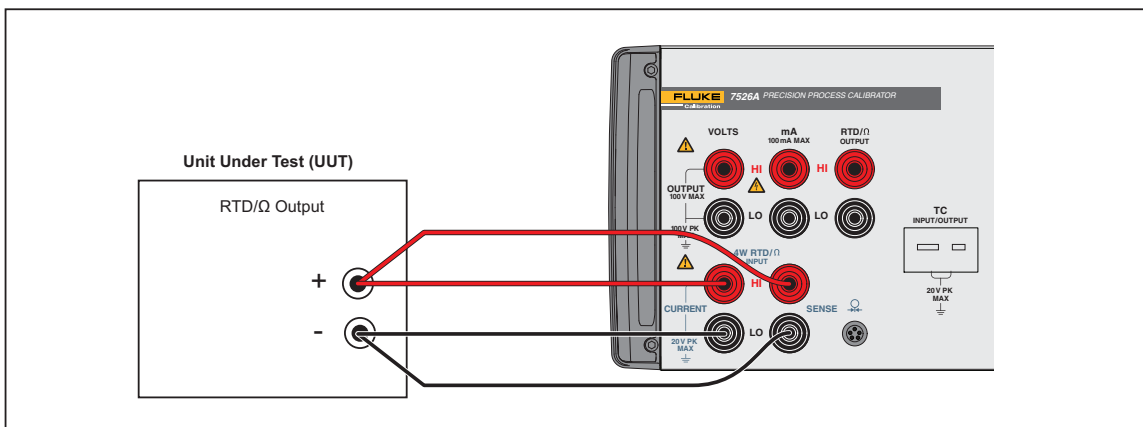

Figure 2-3. RTD/Ω Input Connection
4. Connect the UUT to the 4-wire RTD/Ω input terminals of the Product as shown in Figure 2-3.